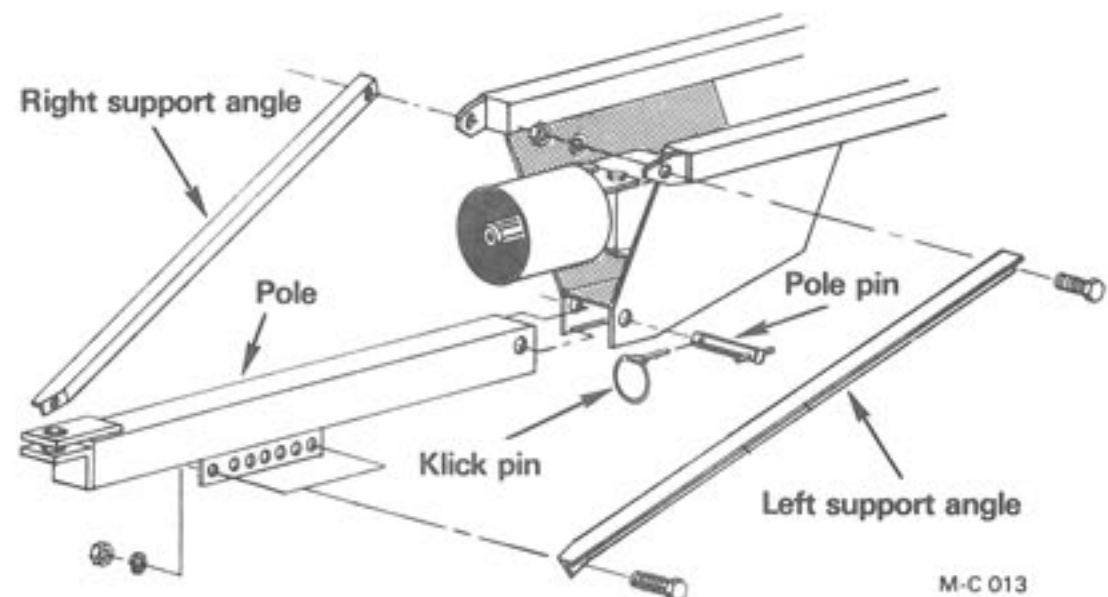

Figure 5
1. Lift the front of the Shredder with a chain hoist and place the pole in position under the gear box and install the pole pin, see Figure 5 and 6. Secure the pole pin with the kick pin. Be sure kick pin ring is snapped into the locking position.
2. There are seven pole support angle mounting holes on each side of the pole, see Figure 5 and 6. Select the position that will set the pole at the correct tractor drawbar height and keep the Shredder body as level as possible (see note). Secure the pole support angles with four 3/4"-10 x 2" (Grade 5) hex-head capscrews, lockwashers and nuts.